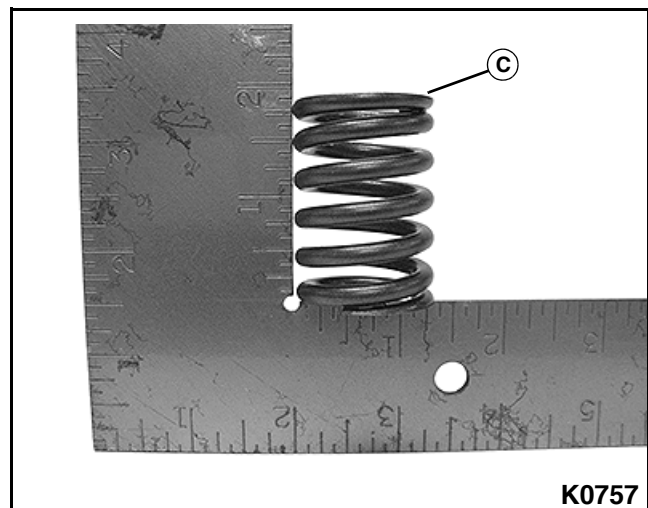

Figure 3-147
2. Using a steel square, check the valve spring (C) for squareness on a flat surface. The valve spring should be within specification. **See Figure 3-147.**